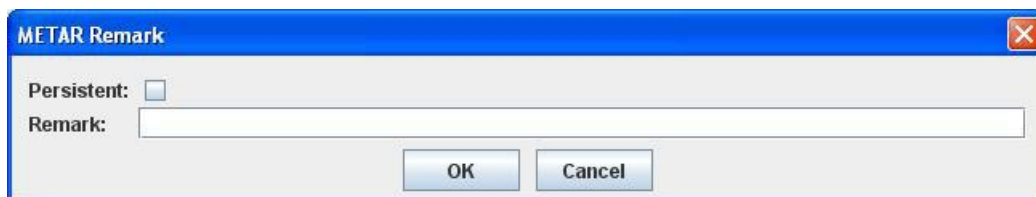

Figure 81. METAR Remark Screen
1. Click **METAR Remark** on the *Reports* menu. The screen shown in Figure 81 will appear.